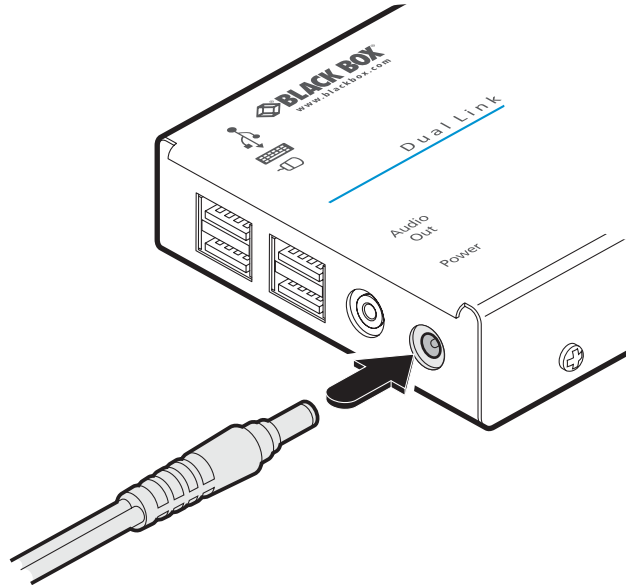

Figure 3-13. Attaching the power adapter connection
- 1 Connect the output lead of the supplied power adapter to the socket labeled '**POWER**' on the remote module as shown in Figure 3-13: